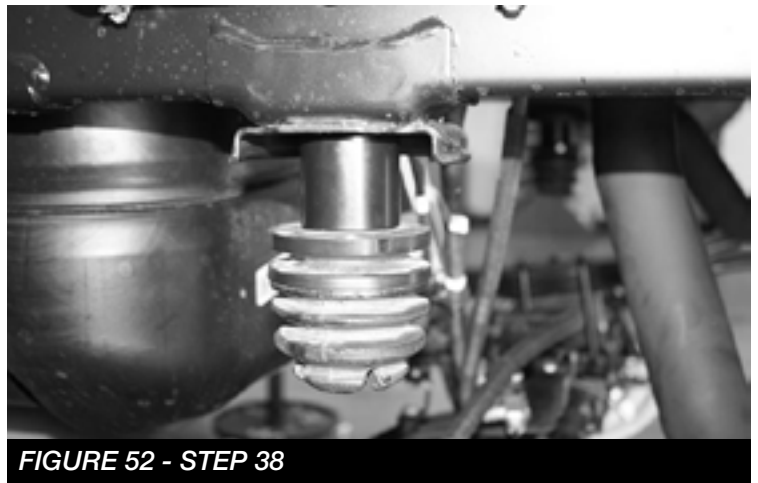

FIGURE 52 - STEP 38
38. Remove the factory bumpstop from the frame and discard the bolt. Install FT20870 (Bumpstop spacer) in between the factory bumpstop and the frame using the supplied M10 x 70mm socket head bolt. Torque to 53 ft-lbs **SEE FIGURE 52**